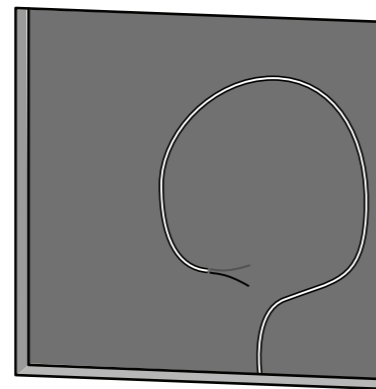

Fig. 13. Speaker Wire
3. Run the speaker wire from your amplifier to this location, leaving enough slack to allow for the connection (Fig. 13).